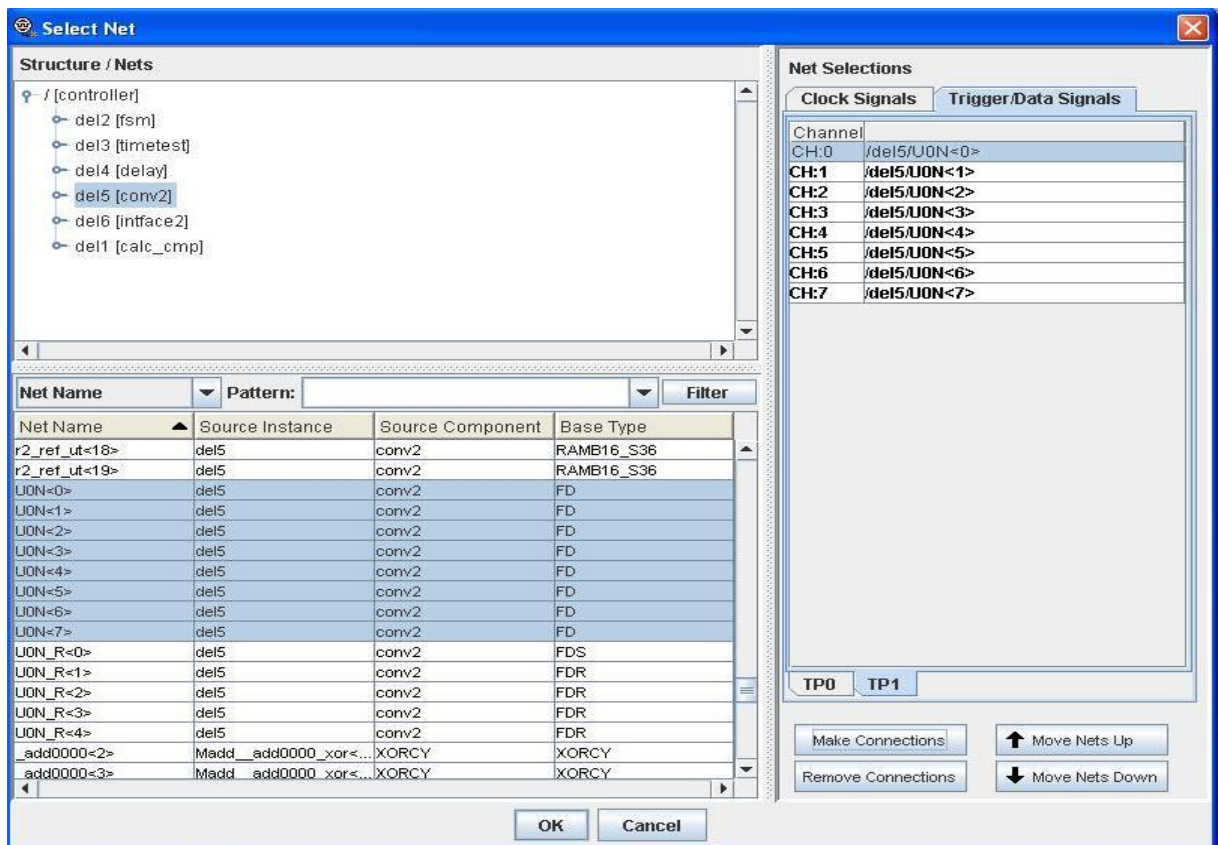

Fig 3.13: Selecting signals for Net Connections
3. We can select each appropriate ILA under **structure nets** and select the trigger ports for the signals under that particular net. Just drag the signals under net name and click on **Make Connections** as shown in Fig 3.13.